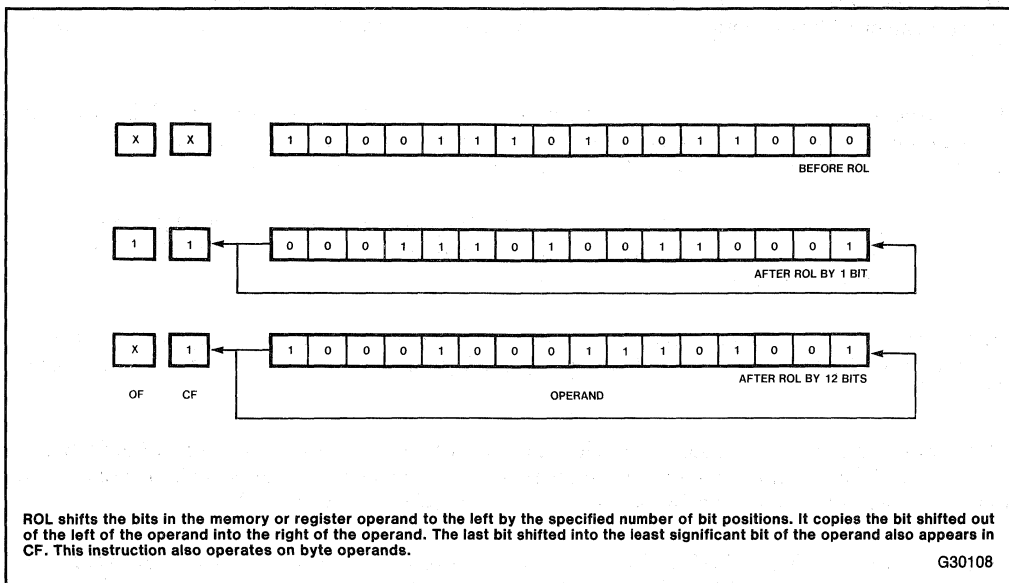

Figure 3-9. ROL
*ROL (Rotate Left)* rotates the byte or word destination operand left by one or by the number of bits specified in the count operand (an immediate value or the value contained in CL). For each rotation specified, the high-order bit that exists from the left of the operand returns at the right to become the new low-order bit of the operand. See figure 3-9.